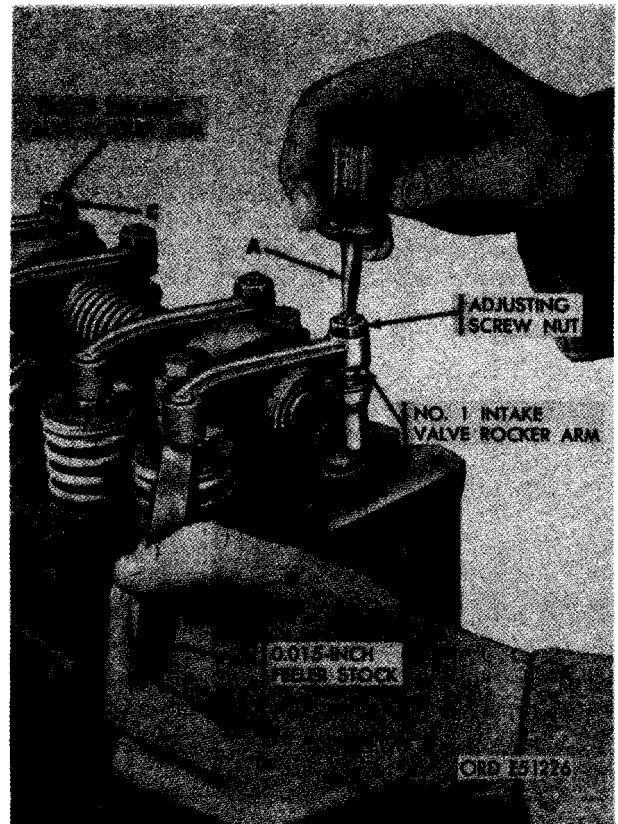

FIGURE 486. TYPICAL PROCEDURE FOR SETTING VALVE CLEARANCE.
- (1) Rotate the crankshaft clockwise, as viewed from the fan end, until the No. 2 intake valve is in the wide open position. This can be determined when the valve rocker pad is holding the valve down as far as it will go, and its push rod is as high as it will go. When the No. 2 intake valve is in the wide open position, the No. 2 exhaust valve, and No. 1 intake valve are completely closed and in position to be adjusted.
- (2) Set No. 1 intake and No. 2 exhaust valve clearance. Figure 486. (A) Loosen adjusting screw nut and screw as necessary. (B) Place a 0.015-inch feeler gage between No. 1 intake valve rocker arm and the valve stem. Tighten the adjusting screw until the feeler gage can be withdrawn with a slight drag. Tighten the adjusting screw nut to secure the setting. (C) Set No. 2 exhaust valve clearance to 0.025-inch in the same manner.